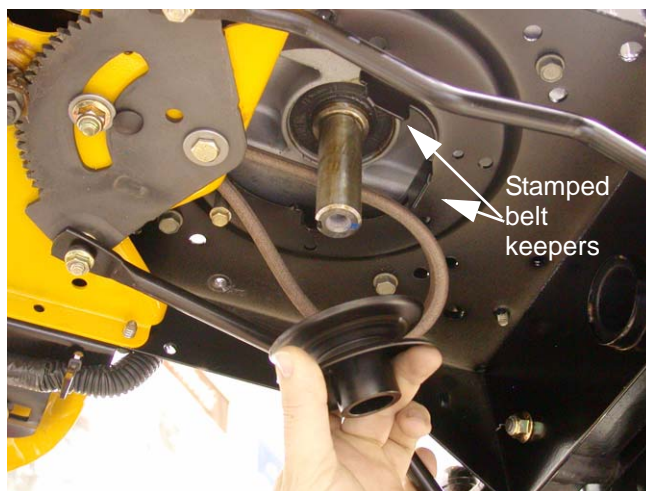

Figure 17.14
- 17.14. Lower the drive pulley far enough to allow the belt to slip past the keepers that are stamped into the frame. Slip the belt off of the pulley and remove the pulley. See Figure 17.14.